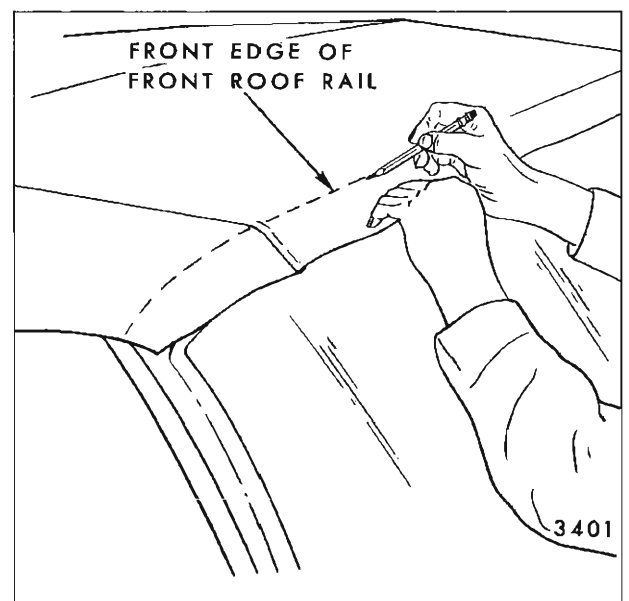

Fig. 13-38—Marking Top at Front Roof Rail
- Lock front roof rail to windshield header. Pull top cover straight forward at seams to desired top fullness. While maintaining tension on cover over front roof rail, make pencil mark on cover outer surface along forward edge of front roof rail (Fig. 13-38).